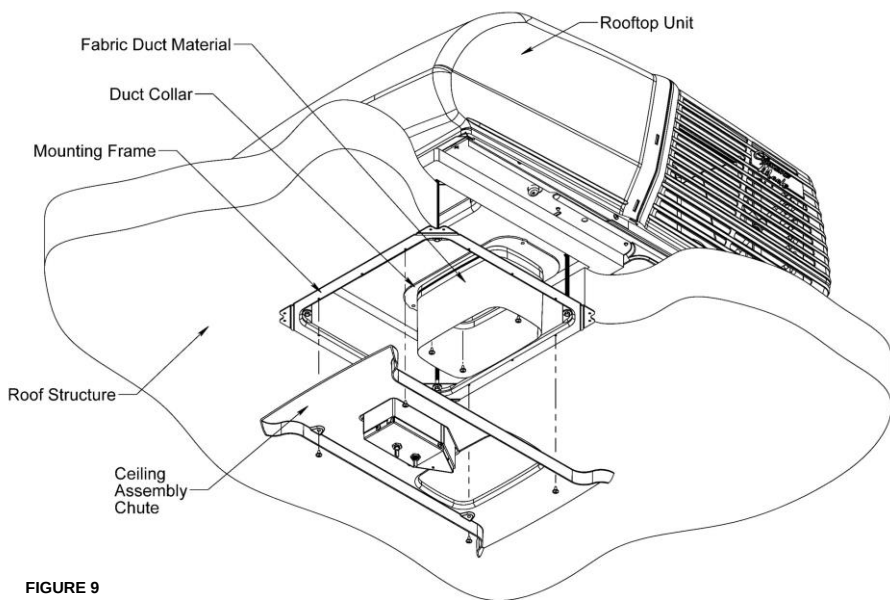

FIGURE 9
- B. Fasten the duct collar to the rooftop unit basepan with 3 provided screws (See Figure 9).
- H. Raise the ceiling assembly chute to the unit mounting frame and secure the chute with four provided screws (See Figure 9).